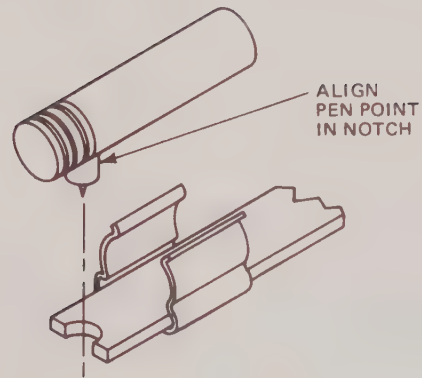

Figure 5 Replacement of Cartridge Pen
- 1) Cartridge pen replacement. Lift cover and install new cartridge (Tracor Part No. as shown in figure 5).